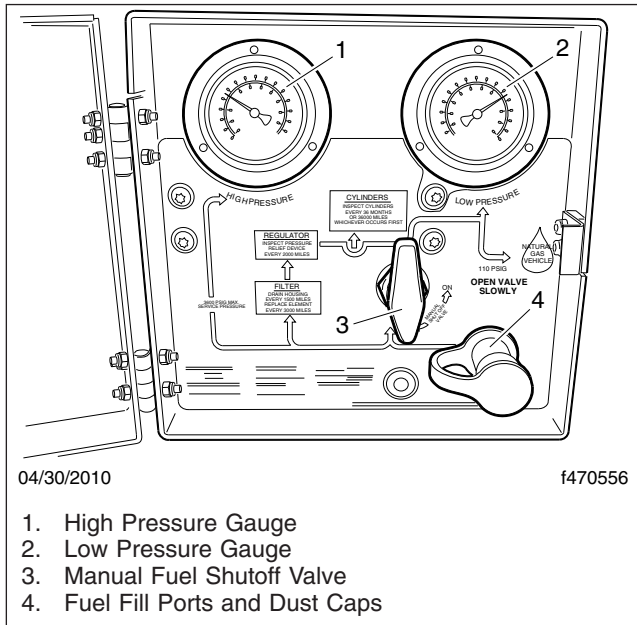
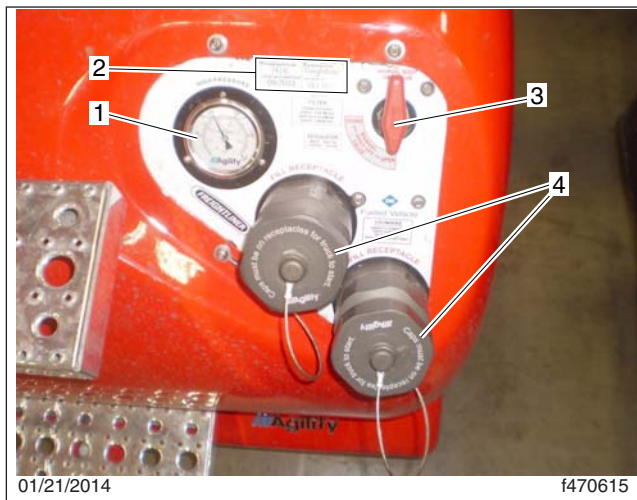

Fig. 12, CNG Fuel Panel (back-of-cab box only)
Fig. 13, CNG Fuel Panel (frame-rail mounted tank)
2. Inspect the fuel fill port for signs of damage, oil residue, or leaks. Ensure the port dust cover and the O-ring inside the port are both present and in good condition. See Fig. 12 and Fig. 13.